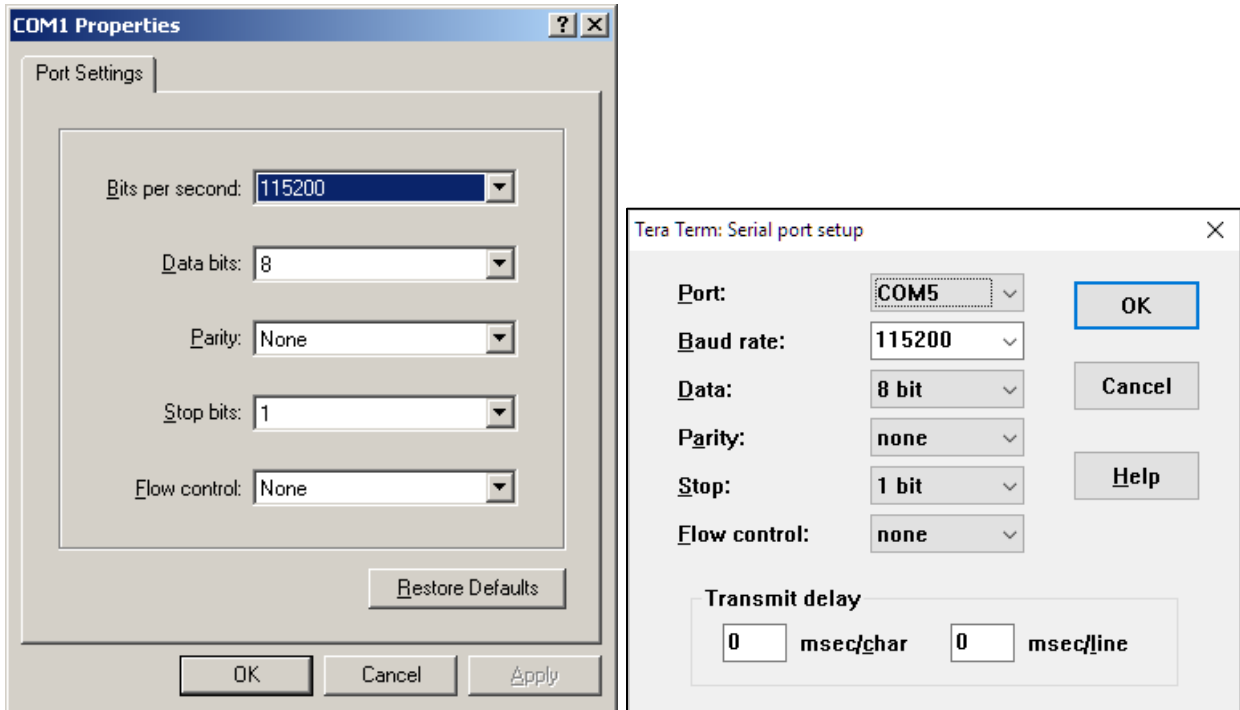

Figure 9. Setting of Windows XP Hyperterminal (left), and of Tera Term (right).
- Click **Configure** and enter/check the COM port settings. The result should normally be as in Figure 9.